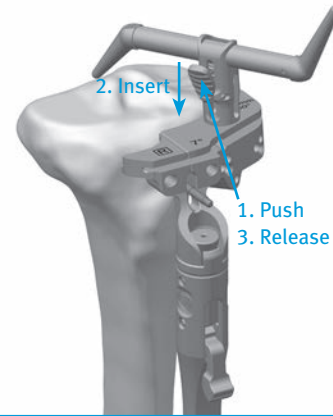

Fig. 23
- To assemble, push and hold the lever on the stylus and insert the stylus into the top of the cut guide and release the lever (**Fig. 23**). The stylus rotates and telescopes to facilitate desired positioning of the stylus tip.